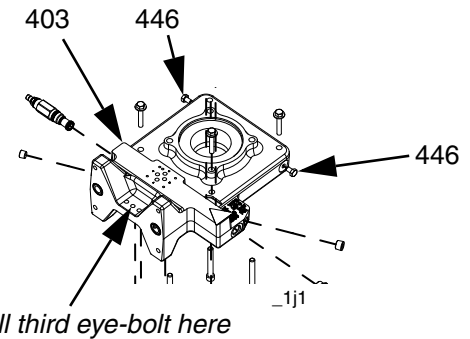

FIG. 6
5. Disconnect heat exchanger inlet hose and fitting from elbow fitting (417). Disconnect heat exchanger outlet hose and fitting from elbow fitting (425).
6. Remove the two bolts (446) from the fluid housing (403) and replace each with a strong 5/16-18 thread eye-bolt. Install a third strong 5/16-18 eye-bolt as indicated. See FIG. 6. See FIG. 4 on page 14 for full hydraulic power pack view.
3. Align the holes with the tank then install finger-tight the four bolts (304) and washers (303) securing the tank to the electrical enclosure. Torque to 10 ft-lb (14 N•m).
5. Remove eye-bolts. Install original bolts (446) into fluid housing (403). See FIG. 6.
7. Connect heat exchanger inlet hose and fitting to elbow fitting (417). Connect heat exchanger outlet hose and fitting to elbow fitting located on rear right face of tank. See **Power Pack Module** on page 27.